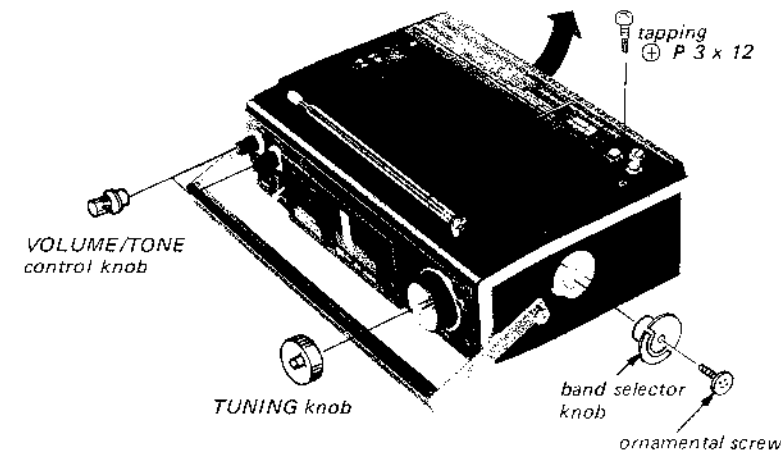

Fig. 2-1.
1. Remove the three screws shown in Fig. 2-1.